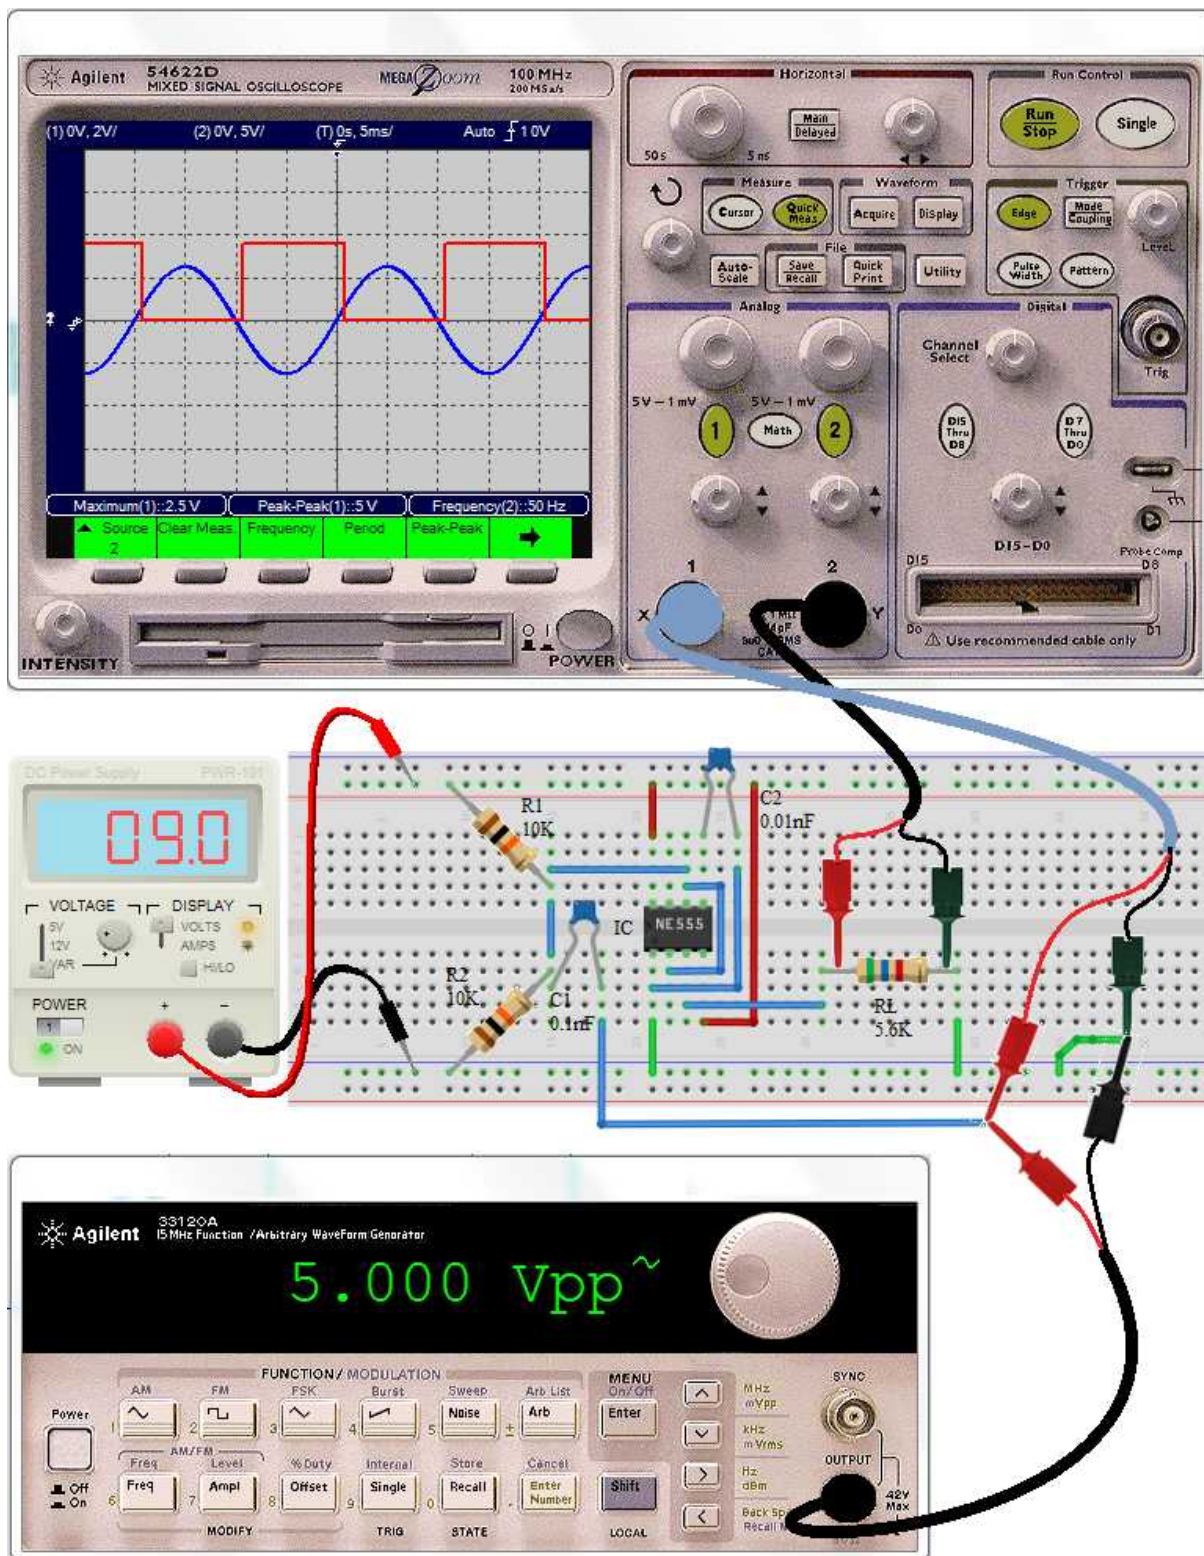

Figure 8-18: 555 timer Schmitt trigger connection circuit
1. Connect the components/equipment as shown in the circuit connection figure 8-18.